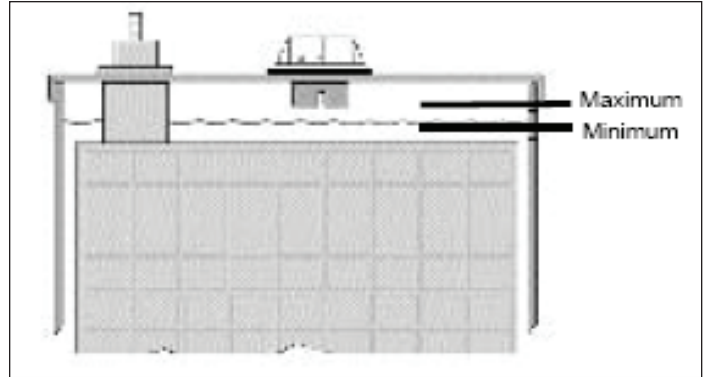

Figure 9-7. Electrolyte Levels
5. After charging, check electrolyte level. Add water as necessary. Water must be over the battery plates while still under the bottom of the caps. See Figure 9-7.